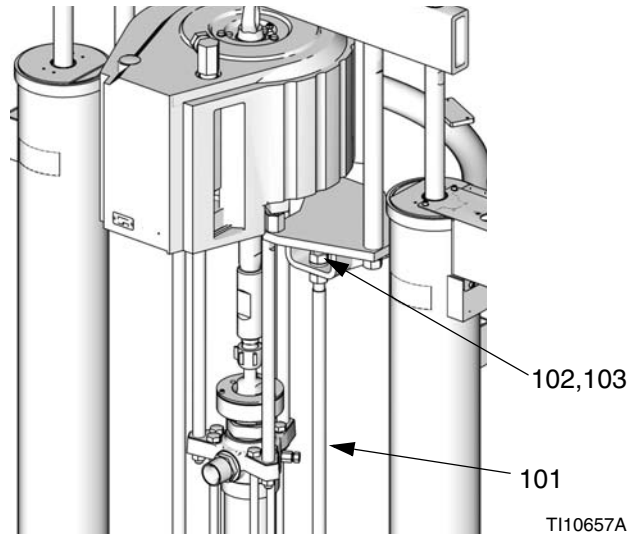

FIG. 20
1. Remove nuts and washers (102, 103) from top of platen lift rods (101). See FIG. 20.
Do not remove or adjust the nuts (102) below the brackets. See FIG. 20. If the nuts are adjusted the pump will not fully engage with the platen or the smaller distance will put stress on the motor, tie rods, and displacement pump.
4. Tighten nuts (103) and washers (102) to top of platen lift rods (101). See FIG. 20.